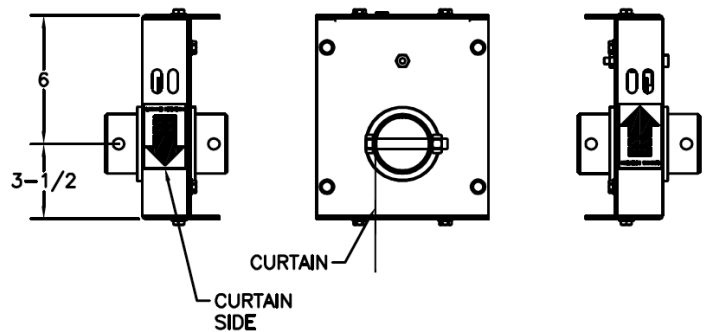

Figure 2 - Locking Direction Orientation
1. Pay close attention to the two locking direction arrow labels on each side to the CS 1000. Refer to Figure 2.
6. Locate the mounting plate to the bottom flanges of both the CS 1000 and TW 1200 units as shown in Figure 2 and fasten with the hardware supplied. Refer to Figure 4. Note that the bolt is inserted from the underside.